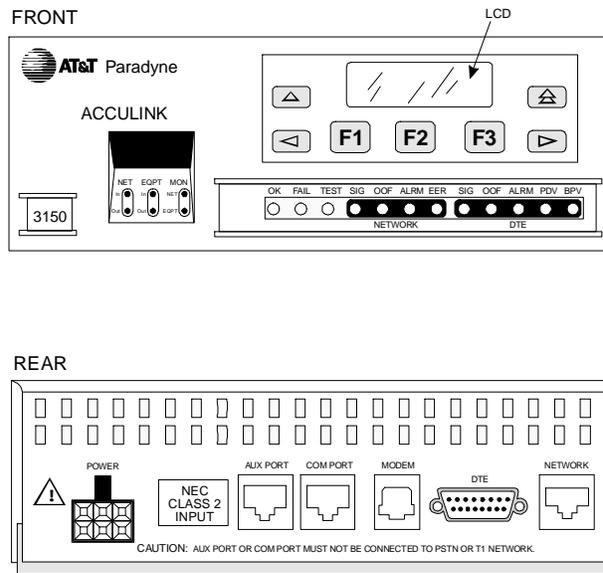

Figure 1-7. Front and Back Panel of the ACCULINK 3150 Channel Service Unit
1. Connect the 15-pin slide latch adapter cable to the DTE port of the CSU rear panel (Figure 1-7).
5. Connect the appropriate end of the T1 line interface cable to the NETWORK port on the rear panel of the CSU (Figure 1-7).